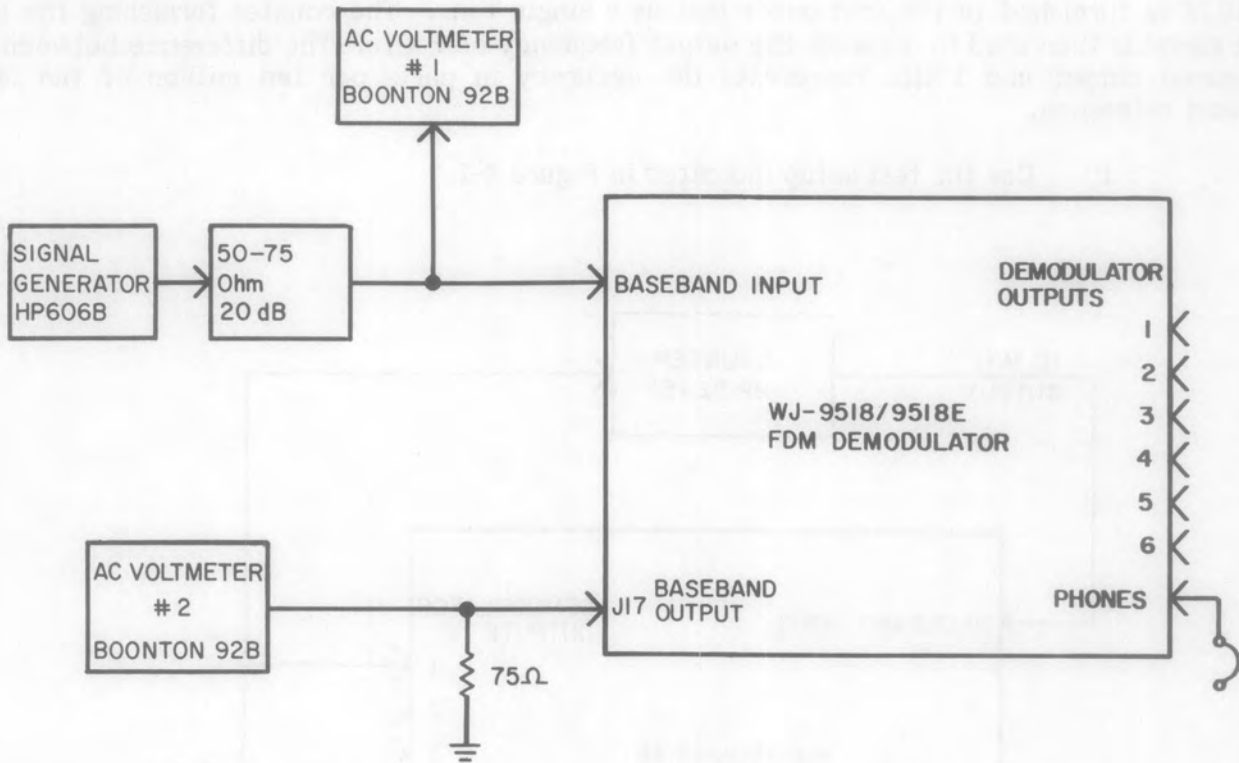

Figure 4-6. Test Equipment Setup for Video Baseband Output Level/
1. Connect the test equipment as shown in Figure 4-6.